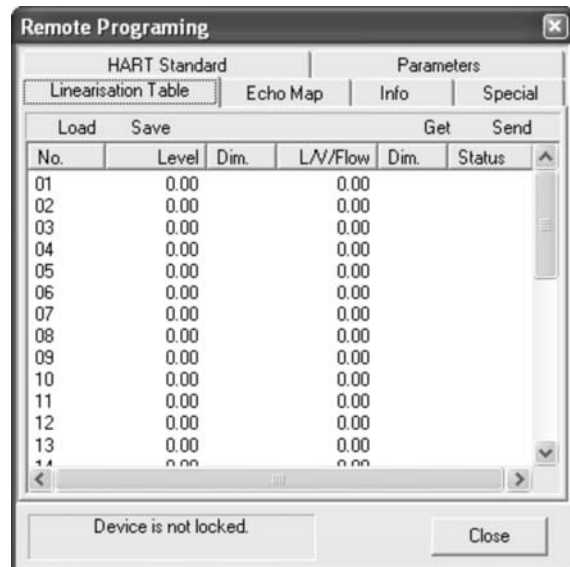

Figure 9. Linearisation Table Window
- Linearisation Table (Figure 9)